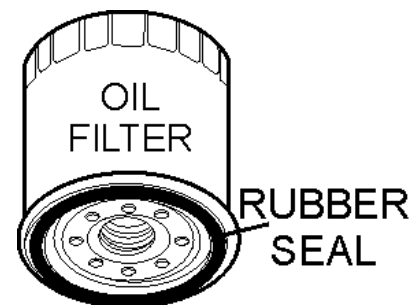

Figure 31. Oil Filter
1. Replace the engine oil filter (Figure 31) every 200 hours.